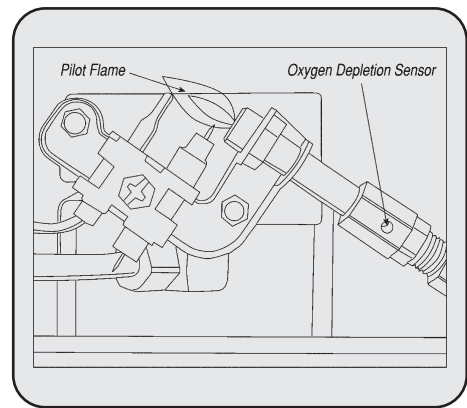

Figure 5
pilot flame should be blue in color (not yellow) and will extend to the thermocouple. The flame will surround the thermocouple just below the tip. See Figure 5.
7. Inspect and clean pilot (mounted to bracket) by using a vacuum or apply air pressure through the holes in the pilot indicated by the arrows in Figure 5.